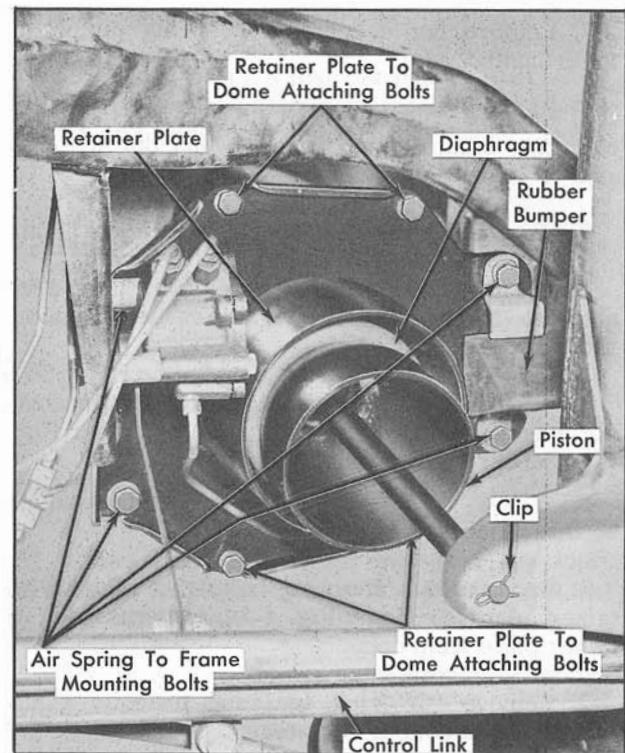

Fig. 4-26 Rear Air Spring Removal
2. Disconnect adjusting link at leveling valve control arm and pull down on control arm to exhaust air from rear spring, Fig. 4-26.
8. Remove four mounting bolts securing rear air spring assembly to frame mounting bracket, Fig. 4-26, and remove rubber bumper.
2. Remove four attaching bolts that secure retainer plate to dome and separate retainer plate from dome, Fig. 4-26, and remove rubber bumper.
4. Install retaining plate on air dome and secure with four attaching bolts, Fig. 4-26.